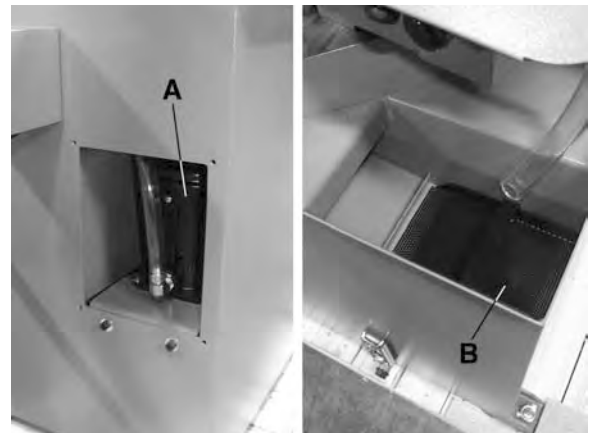

FIGURE 21
The bandsaw comes with a built-in coolant pump (A) Fig.21 and coolant fluid recirculating system. Using coolant during operations will extend the life of your blades by lowering the temperature of the blade and workpiece during cuts.
An enclosed section of the machine base is used as the coolant fluid reservoir, it comes with a chip tray (B) Fig.21 to prevent metal chips from entering the coolant fluid reservoir. Fill the reservoir with approximately 30 litres of your chosen cutting fluid solution (see your nearest car parts or industrial machinery dealer for more information) through the chip tray (B).
WARNING! Clean the screen of the chip tray (B) Fig.21 so coolant can drain back to the coolant reservoir. .